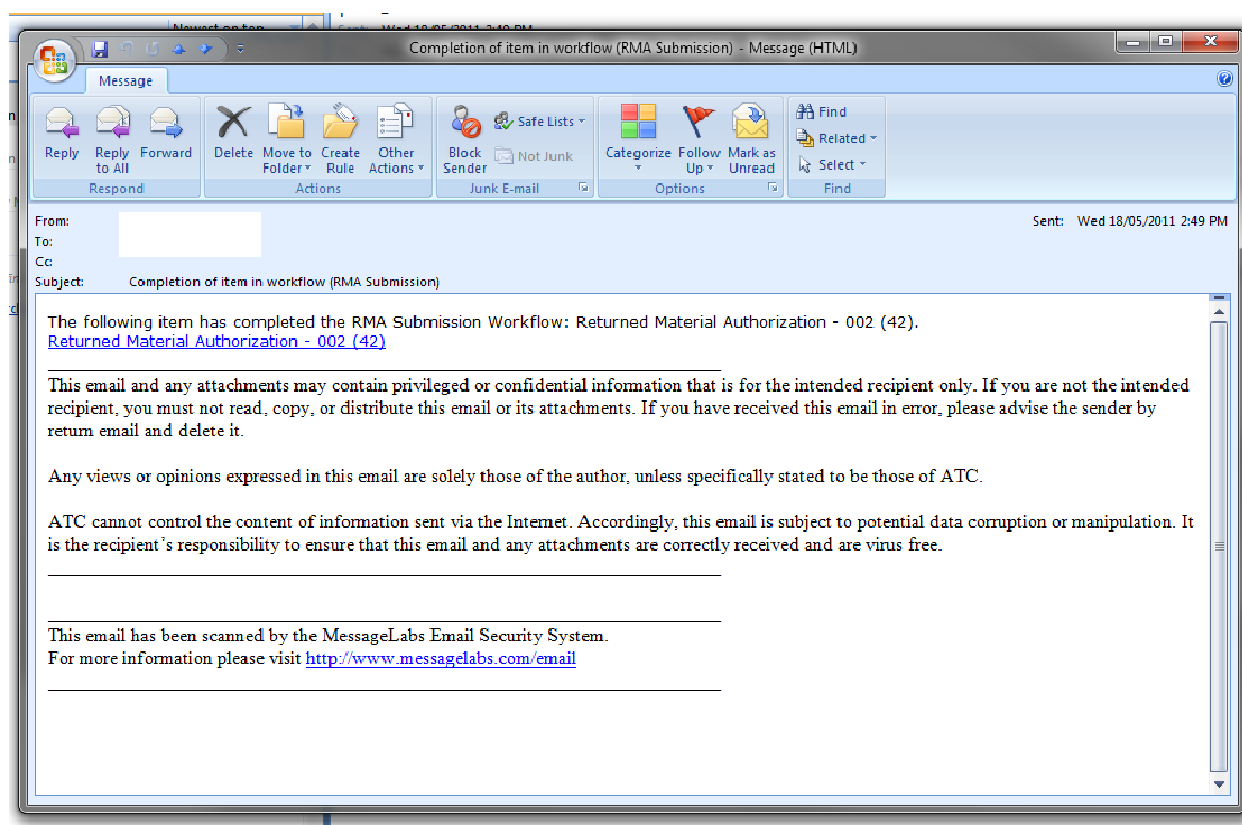

Figure 10 ATC Website RMA Completion Email Notification
5. **Final Store Dispatch**--- A double box on this means your RMA is waiting to be dispatched from ATC store. Once it is physically dispatched , the originator gets an email notification as shown in Figure 10 below and the process is complete.